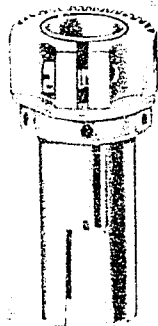

Figure 6
1. The control sleeve (20) guide washer (6) and control gear segment (18) are assembled first, to be held in readiness for installation in the pump later. The guide washer (6) is constructed with two locating pins and two flats diametrically located. One of the flats is plain, the other is made with a tooth. The plain flat is used to inscribe the calibration mark. In the event that neither the guide washer (6) or control sleeve (20) have been replaced, then the calibrating mark inscribed on the guide washer must be deleted. Use a
very fine file to delete the mark on the guide washer. *Do not file at the bench where the pump assembly is being done.* After the calibrating mark has been deleted, clean the guide washer of filings and blow off with compressed air. The deleted mark will be replaced after the pump has been calibrated. It is to be inscribed in alignment with the mark on the control sleeve. Locate the guide washer on the control gear segment so that the plain flat is beneath the clamping screw (19). Slip the control sleeve (20) into the gear segment. The guide washer will be between the control gear and control sleeve flange. Align the control gear segment slot with the center hole and notch of the control sleeve (See Figure 6). Tighten the clamping screw sufficiently to keep the assembly together. This establishes a suitable approximate setting. Further adjustment will be necessary and be made during calibration.